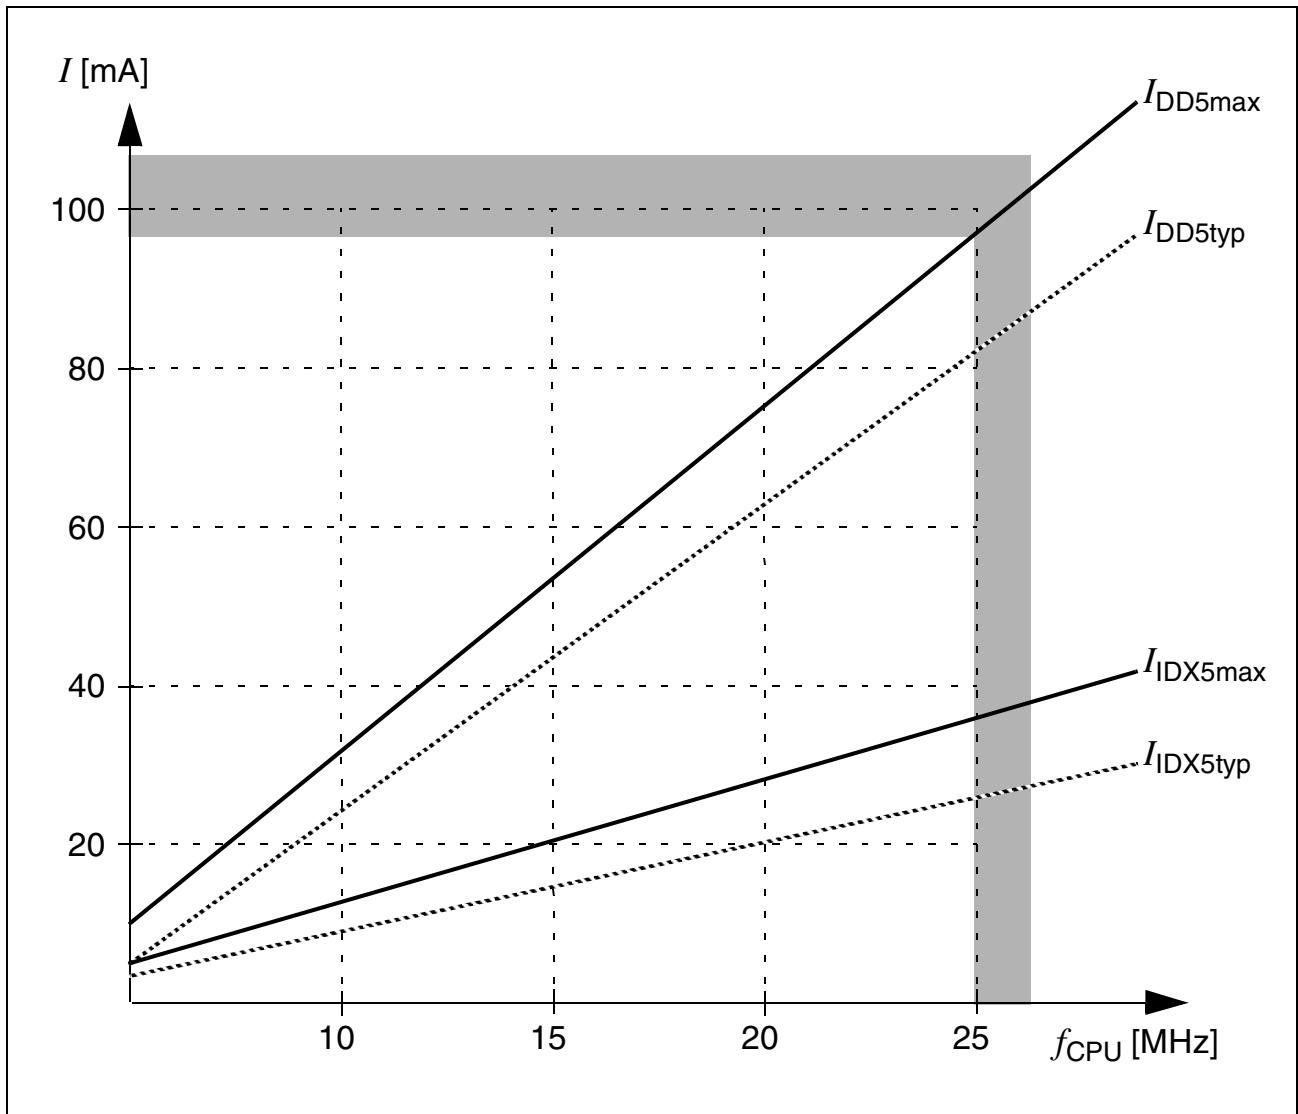

Figure 10 Supply/Idle Current as a Function of Operating Frequency for OTP Derivatives
- 1) The supply current is a function of the operating frequency. This dependency is illustrated in Figure 10. These parameters are tested at V_{DDmax} and maximum CPU clock with all outputs disconnected and all inputs at V_{IL} or V_{IH} .